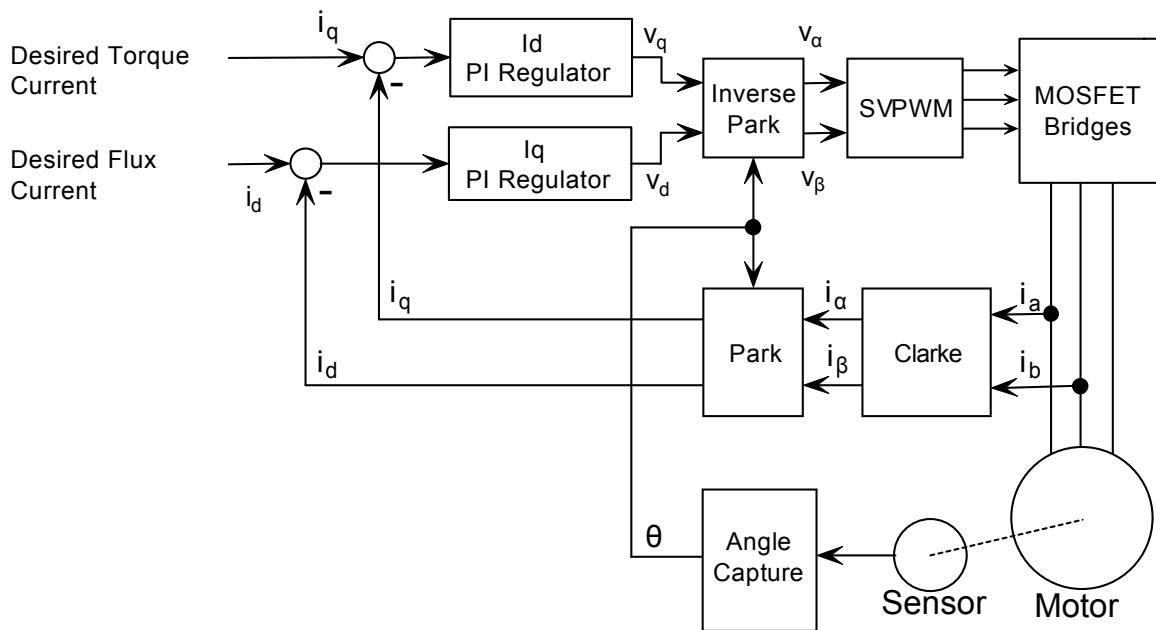

Figure 8-11. FOC operation
Field Oriented Control is available on selected models of Roboteq motor controllers. It is uses a classical implementation as described in the figure 8-11. The current in the motor phase is captured, along with the rotor's angle. From this are computed the useful  $i_q$  and wasteful  $i_d$ . Two Proportional-Integral (PI) regulators then work to control the power output so that the desired Torque ( $i_q$ ) and Flux ( $i_d$ ) currents are met. The desired Flux current is typically set to 0, and so the regulator will work to totally eliminate the Flux current.